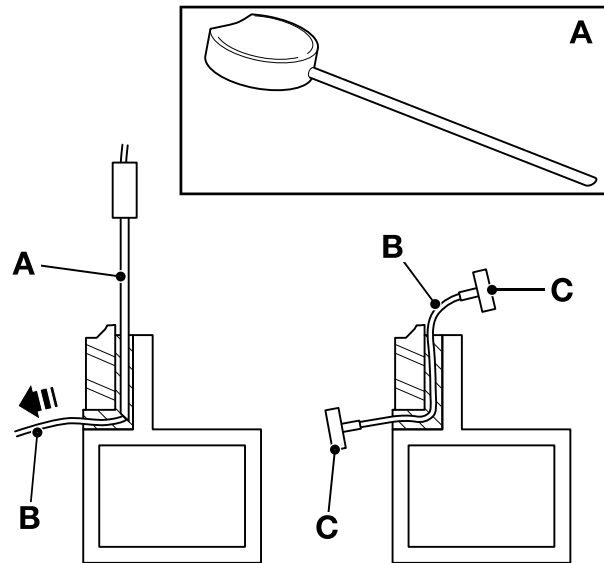

**Fig 1. Pneumatic Knife**
- a Pneumatic Knife. ⇒ Fig 1. \(□ B-20\). This provides one of the easiest methods of removing the sealant around laminated glass. The tool, powered by compressed air, should be sourced locally.